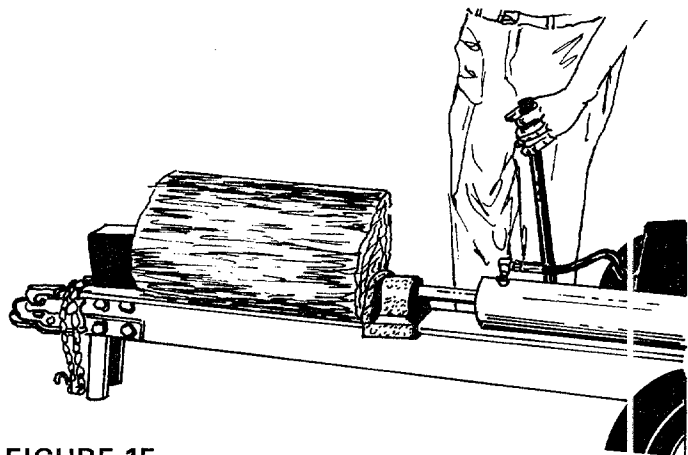

FIGURE 15
4. Remove your hand from the log and step behind the ram. See figure 15.